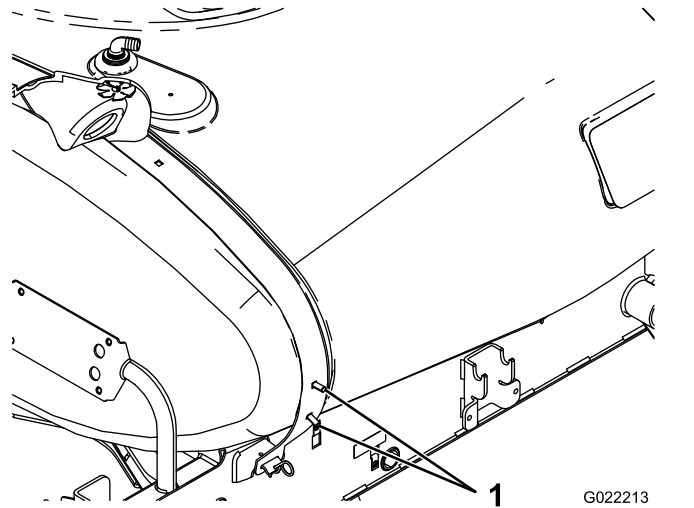

Figure 7
2. Install 2 carriage bolts to the low inboard holes on the right side of the rear tank strap (Figure 7).